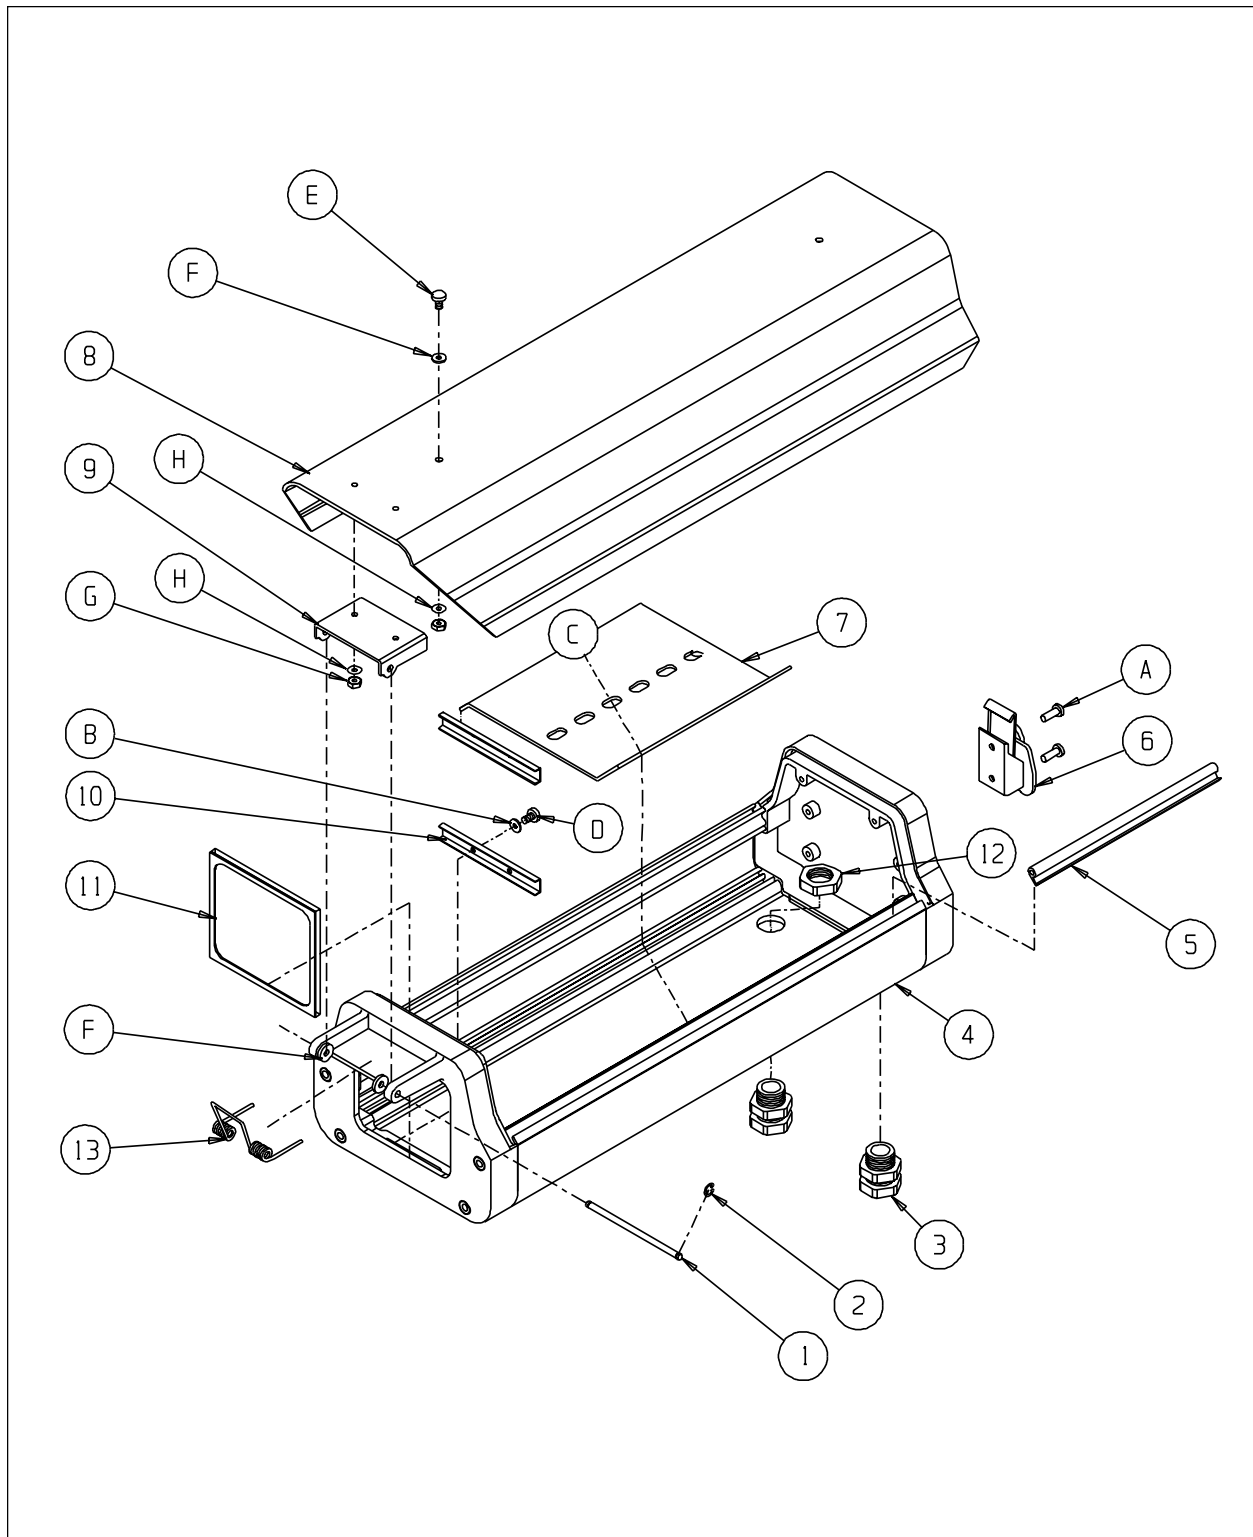

Figure 3. EH3508 Exploded Assembly Diagram
The lid of the enclosure is hinged in the front providing easy access during installation and when camera/lens adjustments are necessary. The camera sled itself (see Figure 3, Item 7) can serve as an elevation block. It can be removed, inverted and flipped, then reinstalled. All wiring and cabling is brought into the enclosure through adjustable glands at the bottom rear of the enclosure.
2. Refer to Figure 3 for the location of the camera sled (item 7). Remove the camera sled from the rail:
The following parts list corresponds to the exploded assembly diagram in Figure 3.